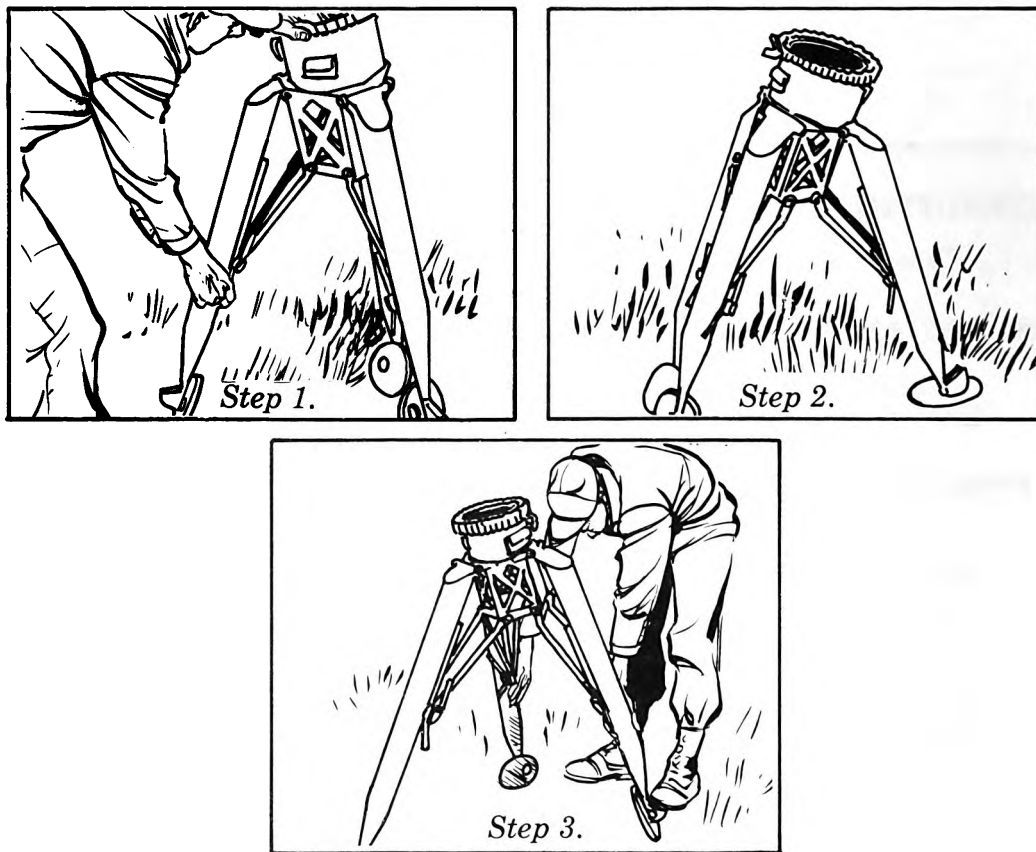

Figure 2. Detent stop lever.
b. Press the detent stop lever toward the leg until it disengages and then release it as you pull the leg out (figure 2). The detent stop should engage at the first detent stop position.